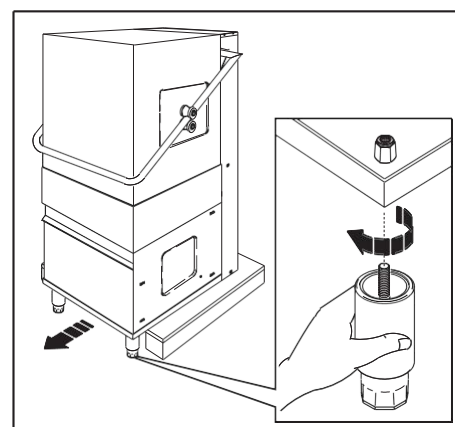

Fig. 4
3. Move the machine on the bench until you release two of the four holes provided for inserting the support feet (Fig. 4).
Take one of the supplied feet and screw it into one of the two vacated slots (fig. 4).
Proceed with the assembly of the second foot using the same procedure (fig 4).